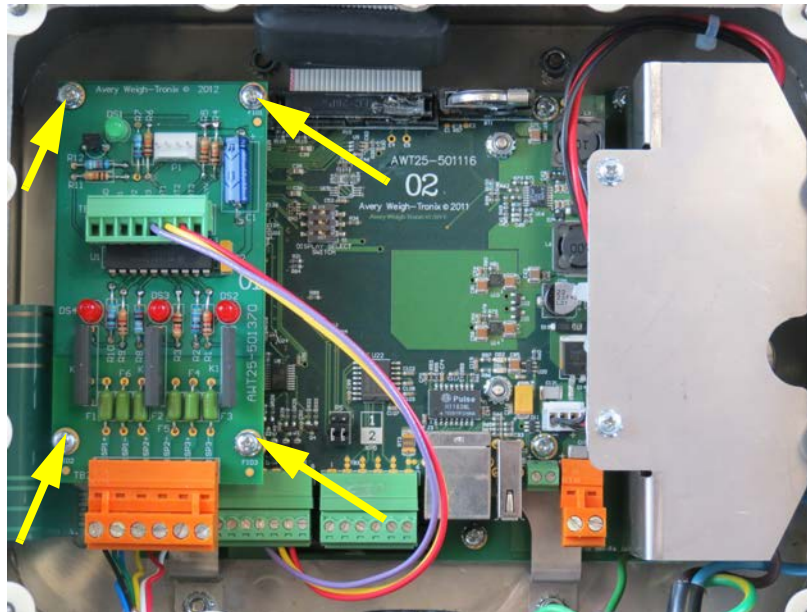

Figure 9.9 AC Relay option module on main board
- Plug the option module into terminal J4 on the main board. See Figure 9.9. Use the included standoffs and screws to fasten the module to the main board at the four locations noted by the arrows.
These wires are shown in place in Figure 9.9.